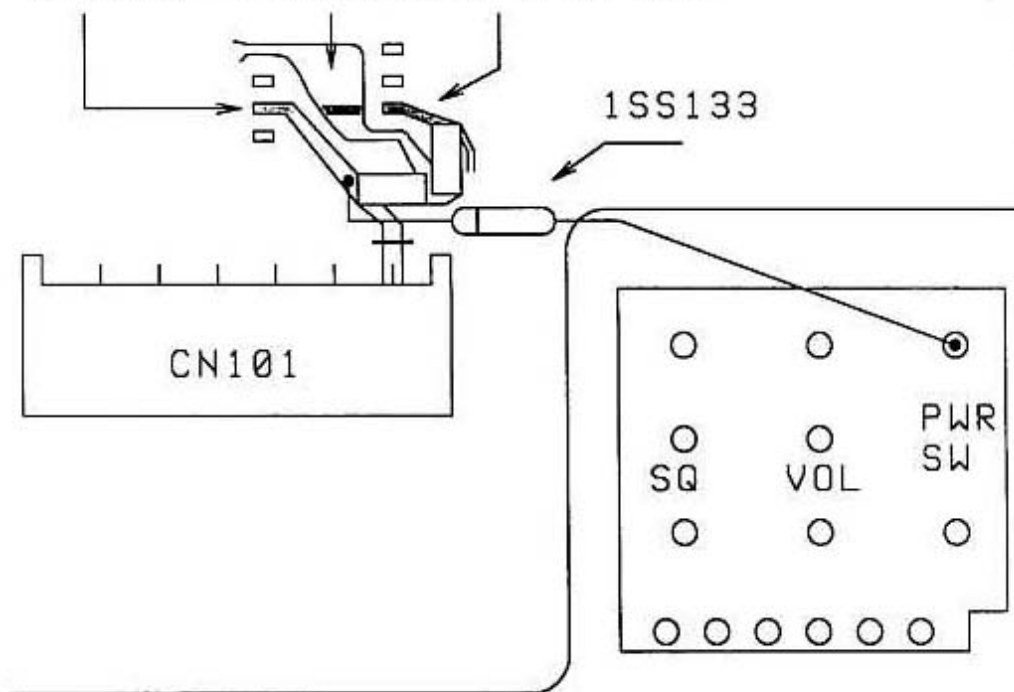

FIGURE 7
17. Prepare the 1SS133 diode for installation. The cathode lead will be cut and bent 90°. The diode must lay flat on the board and the cathode lead cannot touch the cut in foil. Once the diode leads are prepared, solder the diode in place. Figure 7.
19. The 6 V AVR will be mounted in place where IC102 was located. The board must first be prepared for the installation. Remove the protective coating from the foils as shown in Figure 7. These are the foils that where connected to pins 2 and 7 of IC102 and the ground foil that runs under the device.